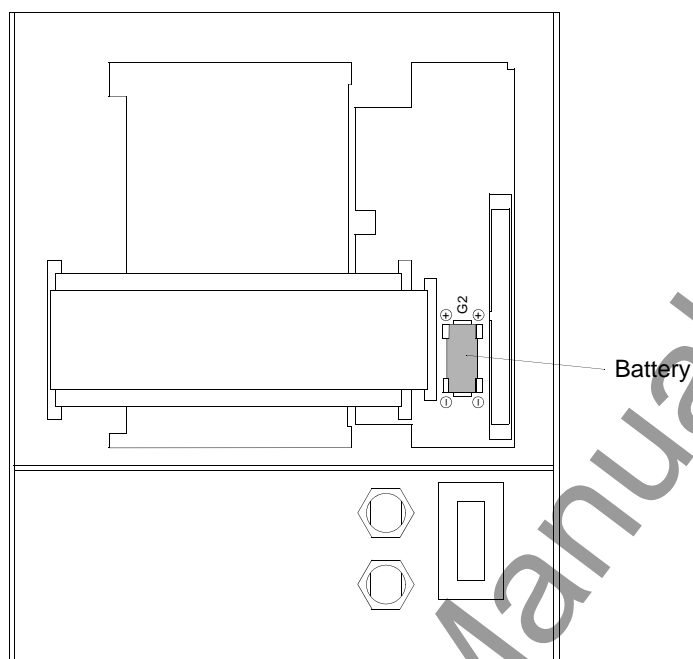

Fig. 8-2 Rear view of the front panel, enclosure size $\frac{1}{2}$ with inserted battery
- Press the new battery firmly into the snap-in fastener as shown in Fig. 8-2.